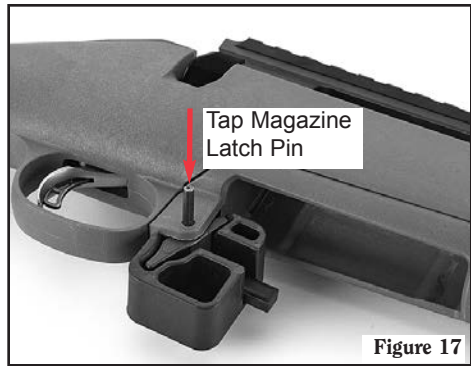

Figure 17
- g. When the pin holes align, and with a non-marring hammer, tap the magazine latch pin flush into the magazine latch and spring assembly. (See Figure 17.)